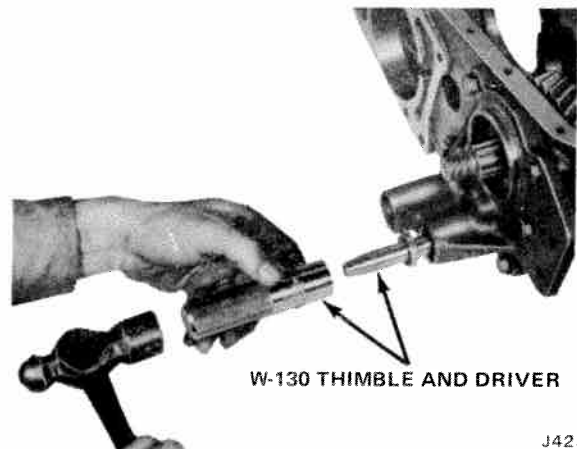

Fig. 8-13 Shift Rail Oil Seal Replacement
- (2) Use Thimble and Driver Tool W-130 to replace seals (fig. 8-13).